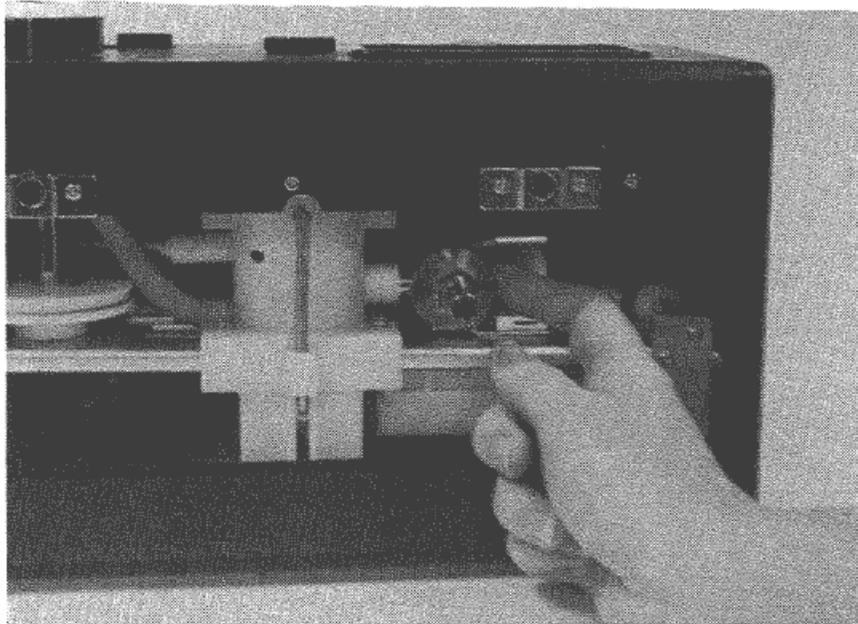

Figure 6. Installing the impactor
Step 3. To install the impactor, push the exit of the impactor into the inlet of the PIEZOBALANCE located right of center (Figure 6). The impactor is properly installed when the screw hole on the PIEZOBALANCE coincides with the cutaway area of the impactor assembly.